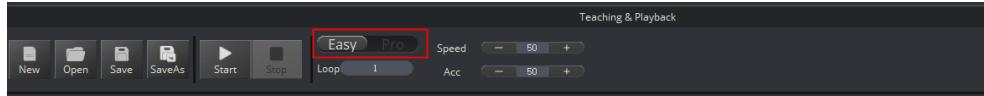

Figure 5.206 Switch advanced function
**Step 2** Click **Easy** icon on the **Teaching&Playback** page, as shown in Figure 5.206.